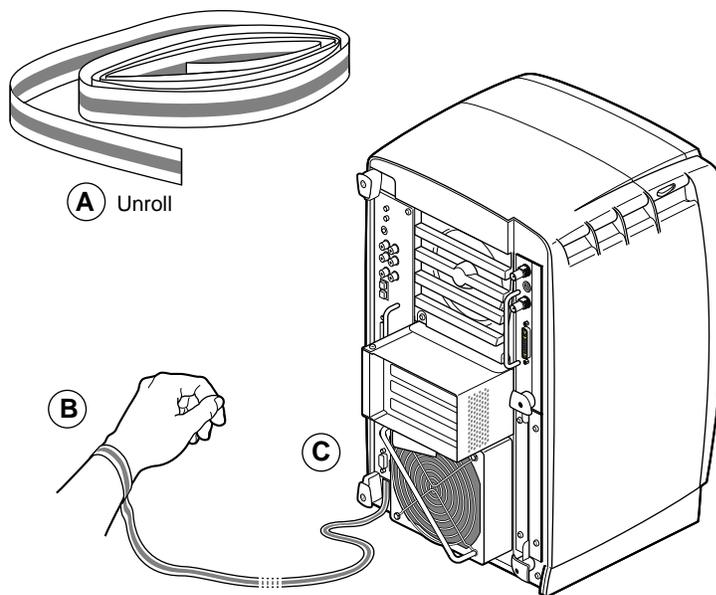

Figure 5-5 Attaching the Wrist Strap
1. Unroll the first two folds of the band (see A in Figure 5-5).
2. Wrap the exposed adhesive side firmly around your wrist (B), unroll the rest of the band, then peel the liner from the copper foil at the opposite end.
3. Attach the copper foil to any exposed electrical ground, such as a metal part of the workstation (C).